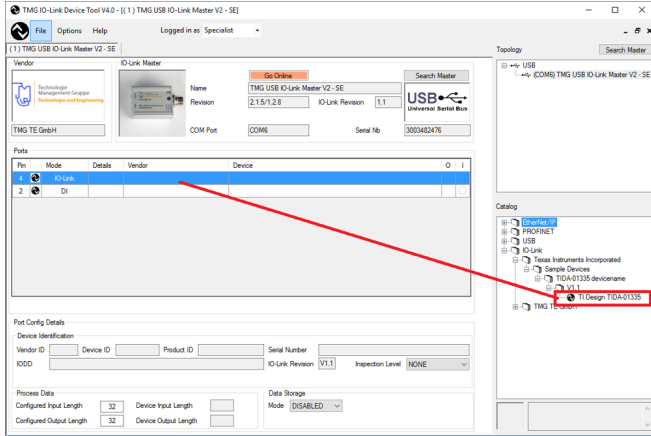

图 14. IO-Link Master GUI 3
3. Drag the "TIDA-01335" IODD file and drop it in the "IO-Link" row. See the manual on how to load the specific IODD files (see 图 14).